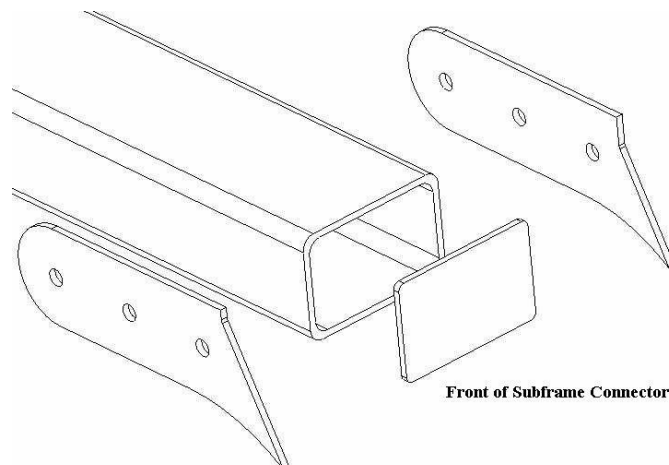

Figure 5
13. Again, place the connector into position keeping the top of the connector even with the top of the subframe. Clamp the subframe brackets onto the front of the subframe connector (Figure 5). The brackets are laser cut to match the contour of the stock subframe. You may need to adjust the end of the stock subframe rail slightly due to subframe variation. The inner (P/N: 99010000) and the outer connector brackets (P/N: 9900001) should butt against the inside and outside subframe rail for a good weld connection. **NOTE:** If you have an aftermarket frame other than the Detroit Speed Hydroformed Frame, you may have to modify the bracket end to match the contour of your frame.